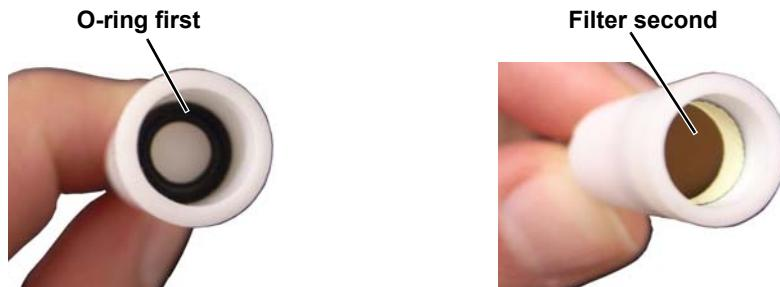

Figure E-3: O-ring and Filter Inserted into Plunger
4. Place a 9 mm O-ring into plunger compartment, then place the interference filter on top of the O-ring (see Figure E-3).